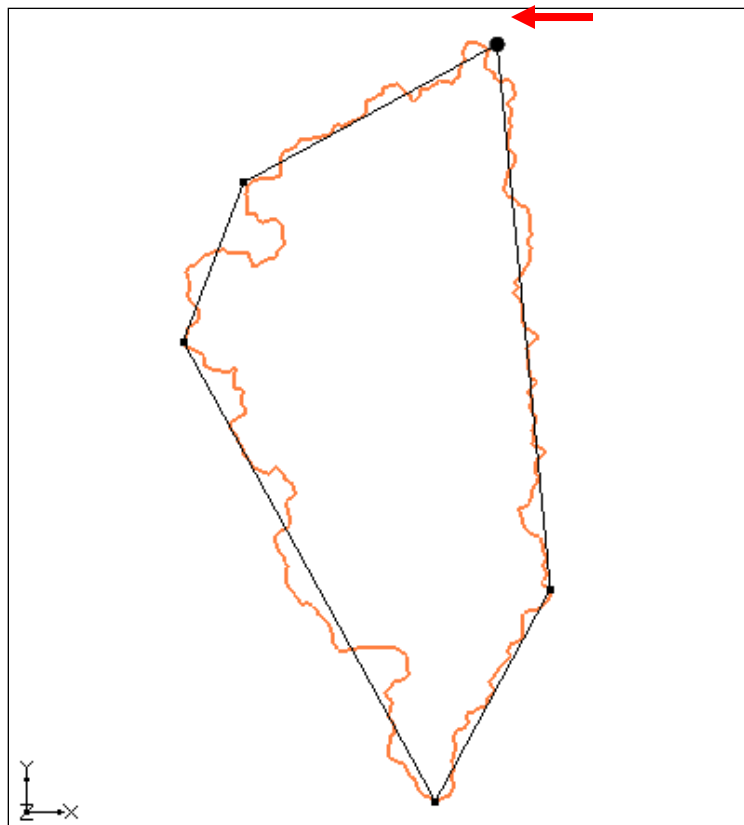

Figure 18 Creating an arc for the watershed boundary
3. Using the **Create Arc**  tool, create a simple arc as shown in Figure 18 by clicking in the Graphics Window. Click on the starting point (indicated by the red arrow in Figure 18) to close the arc to form a polygon. Note: Hit the **Backspace** key to remove the last point clicked, if needed.